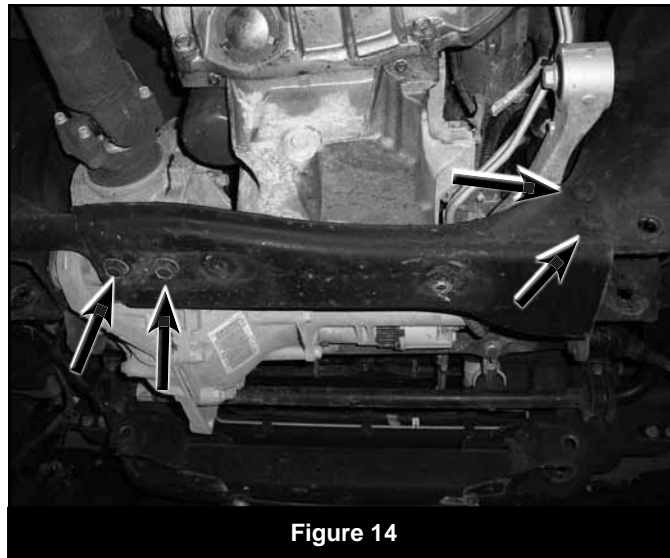

Figure 14
27. Remove the four bolts mounting the rear crossmember to the rear lower control arm pockets (Fig 14). Remove the crossmember from the vehicle. The crossmember and hardware will not be reused.